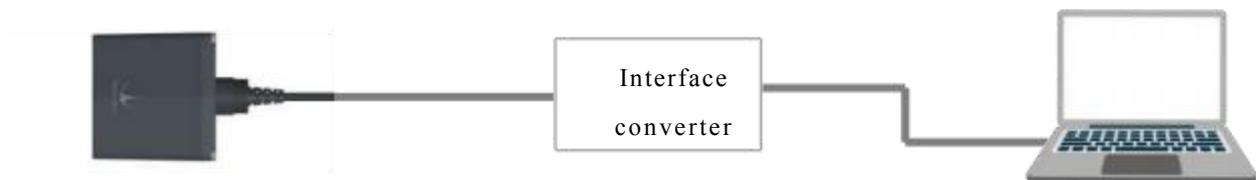

Figure 14 SPL350-Pro connecting to PC
- Connect SPL350-Pro to the PC or laptop with a **paired USB converter** cable as shown in Figure 14 SPL350-Pro connecting to PC. The RS-485 version SPL350-Pro needs a RS-485-USB converter, and the RS-232 version SPL350-Pro needs a RS-232-USB converter.